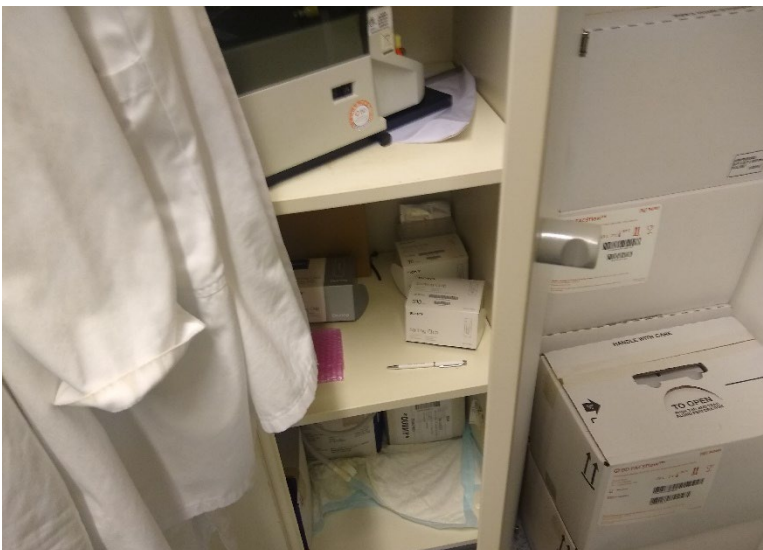
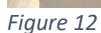

Figure 7
Figure 8
7. For yeast cells, use a 100 μ m chip. If there is already a chip in the machine and the time written on the wrapper of the chip (should be in front of the computer) is less than 24h ago, you can still use that one. But, if the chip is older than 24h, change the chip (the box of chips is stored in the closet, Figure 7). It is recommended to use a new chip if the lab before you sorted out something other than yeast cells. In any case, put the QR of the chip wrapper (Figure 8) in front of the camera (Figure 9).